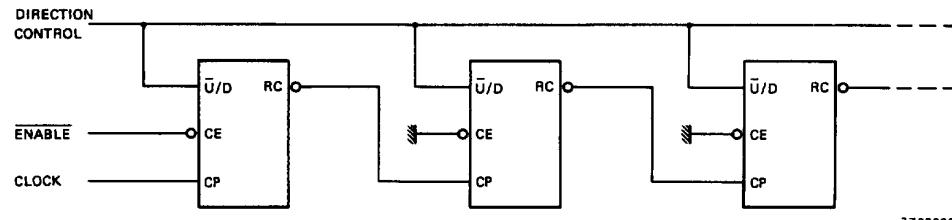
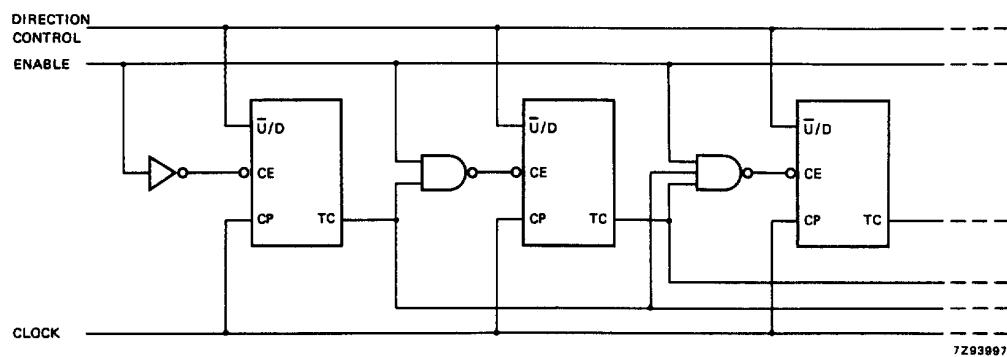

Fig.5 N-stage ripple counter using ripple clock.
Fig.7 Synchronous n-stage counter with parallel gated carry/borrow.
Overflow/underflow indications are provided by two types of outputs, the terminal count (TC) and ripple clock ( $RC$ ). The TC output is normally LOW and goes HIGH when a circuit reaches zero in the count-down mode or reaches "9" in the count-up-mode. The TC output will remain HIGH until a state change occurs, either by counting or presetting, or until  $U/D$  is changed. Do not use the TC output as a clock signal because it is subject to decoding spikes. The TC signal is used internally to enable the  $RC$  output. When TC is HIGH and  $CE$  is LOW, the  $RC$  output follows the clock pulse (CP). This feature simplifies the design of multistage counters as shown in Figs 5 and 6.
In Fig.5, each  $RC$  output is used as the clock input to the next higher stage. It is only necessary to inhibit the first stage to prevent counting in all stages, since a HIGH on  $CE$  inhibits the  $RC$  output pulse as indicated in the function table. The timing skew between state changes in the first and last stages is represented by the cumulative delay of the clock as it ripples through the preceding stages. This can be a disadvantage of this configuration in some applications.
In Fig.7, the configuration shown avoids ripple delays and their associated restrictions. Combining the TC signals from all the preceding stages forms the  $CE$  input for a given stage. An enable must be included in each carry gate in order to inhibit counting. The TC output of a given stage is not affected by its own  $CE$  signal therefore the simple inhibit scheme of Figs 5 and 6 does not apply.